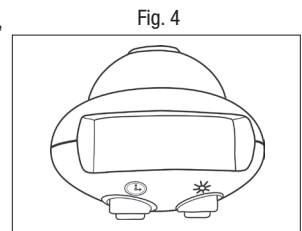

Fig. 5
4. Turn sensitivity light knob to desired location. Turn knob closer to “moon symbol” for light to turn on (with motion) at night or turn closer to “T” for light to start detecting motion at dusk (Fig. 5).